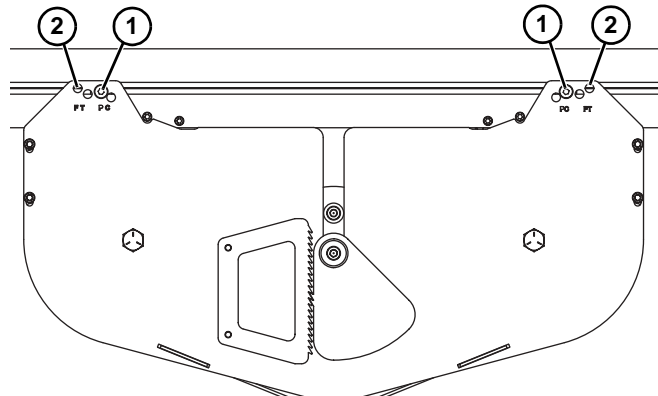

Figure 66
- For standard belt use these holes (Figure 66, item 1).
- For friction insert belt use these holes (Figure 66, item 2).